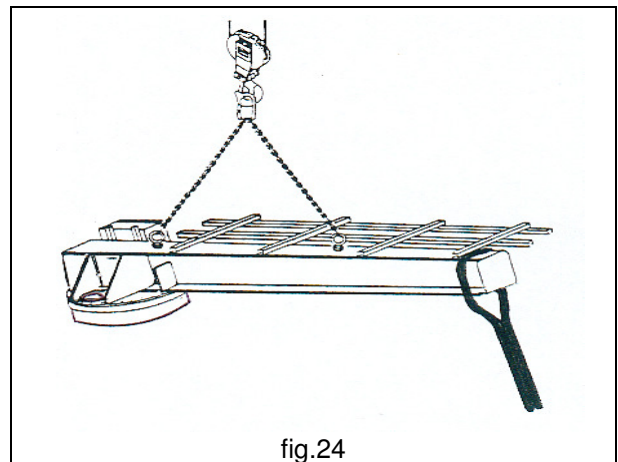

fig.24
4. Avoid oscillations and swinging and, if necessary, to maintain the equilibrium use a rope tied to the ends of the arm. (fig.24)